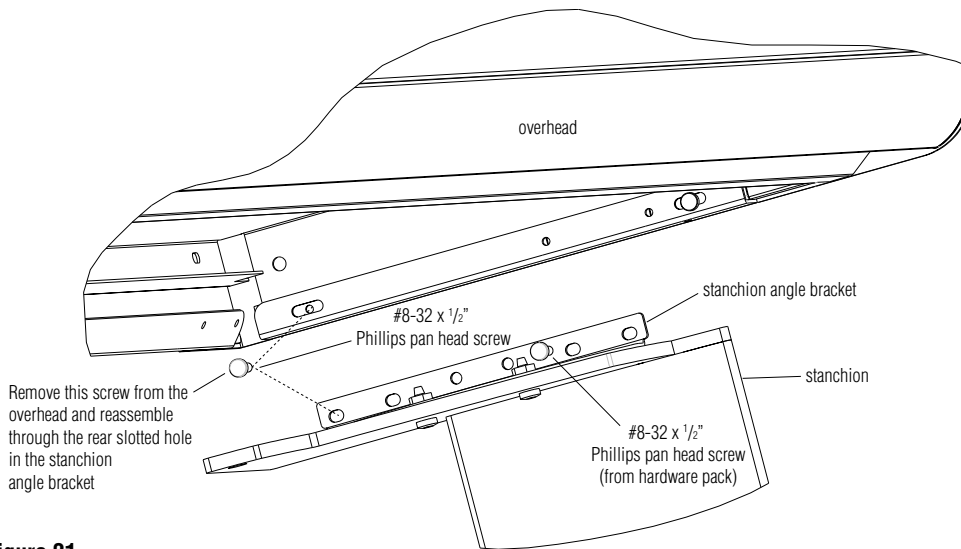

Figure 21
1. The hardware pack contains four #8-32 x 1/2" Phillips locking pan head screws. Only two of these will be used in the overhead installation. The other two mounting screws must be removed from the overhead prior to setting the overhead on the stanchions (Figure 21).
2. Set the overhead onto the stanchions so the back of the overhead is fairly flush with the back of the stanchion plates. Align the attachment holes on the overhead with the two angle bracket holes (Figure 21).
3. Attach the overhead to the angle bracket at the top of each stanchion using four #8-32 x 1/2" Phillips locking pan head screws (two from the hardware pack and two removed from the stanchion) (Figure 21).